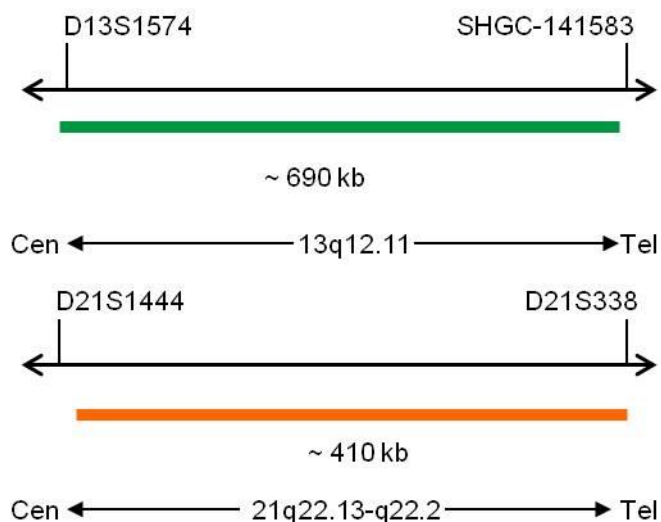

Fig. 1: Top: SPEC 13q12.11 Probe map; Bottom: SPEC 21q22.13-q22.2 Probe map (not to scale)
- ZyGreen (excitation 503 nm/emission 528 nm) labeled polynucleotides (~10.0 ng/μl), which target sequences mapping in 13q12.11\* (chr13:20,200,365-20,892,494) (see Fig. 1).
- ZyOrange (excitation 547 nm/emission 572 nm) labeled polynucleotides (~4.5 ng/μl), which target sequences mapping in 21q22.13-q22.2\* (chr21:39,372,983-39,784,773) (see Fig. 1).